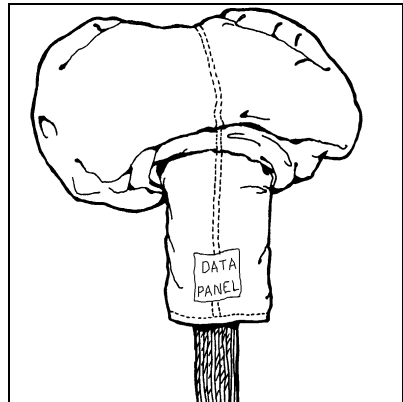

Figure 15.
Step 10.) Maintain the grip on the canopy and gently swing the canopy outward and away. Place the canopy on the floor and apply tension to the lines. **NOTE:** If the canopy is placed on the floor with a twisting motion, it will not spread out evenly. Insure the nose is facing downward toward the floor. The center seam of the center cell (indicated by the data panel) should be in the center of the canopy bundle. (See Figure 15.)